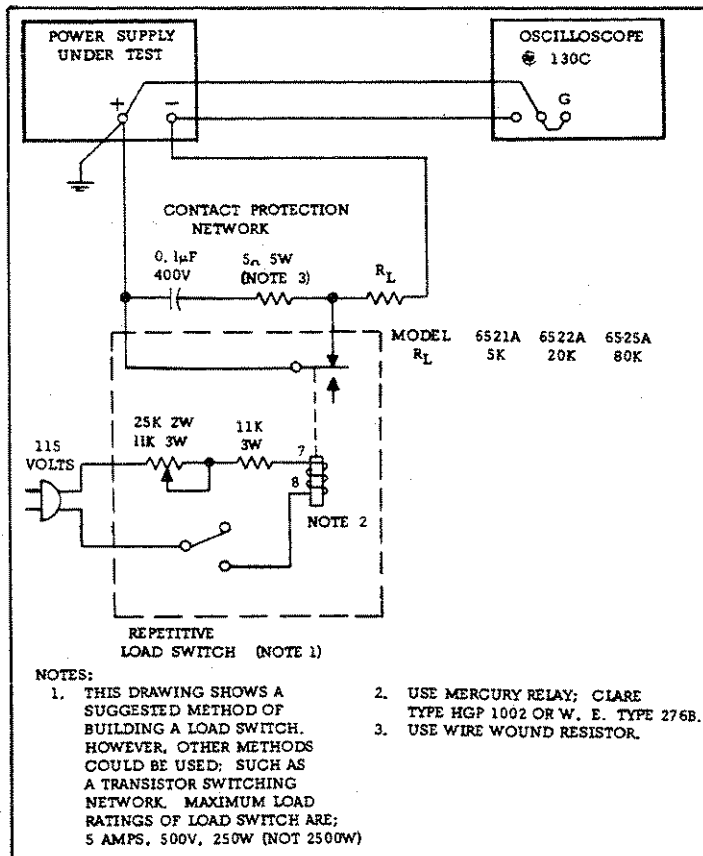

Figure 5-1. Transient Recovery Time Test Setup
a. Connect the load resistance (value shown in Figure 5-1), 100:1 voltage divider, and the differential voltmeter to the T-connector.
a. Connect test setup shown in Figure 5-1.
- a. Connect the load resistance (value shown in Figure 5-1), 100:1 voltage divider, and the differential voltmeter to the T-connector.